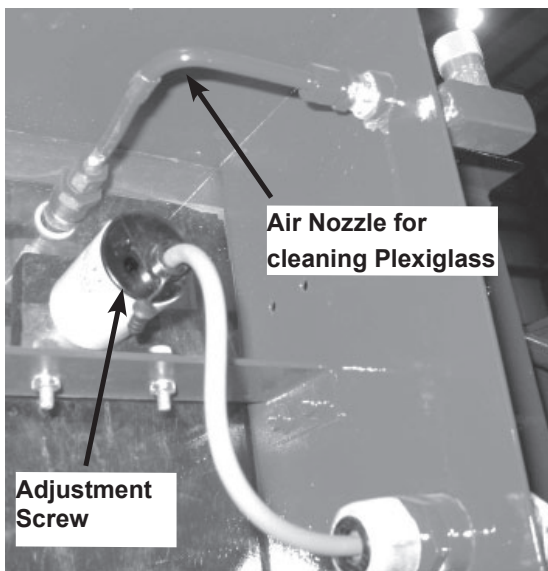

Figure 33 - Level Detector (PROX 1) / Air Nozzle
The Level Detector that is located on the side of the in-feed chute (see Figure 33) is active only when CYCLE MODE switch is in TRIG position. The level detector will detect product that sits in front of it for more than 1 second. The level detector will send a signal to the IQAN and the plunger will move according to pot #1 (PRODUCT DELAY) setting (see Potentiometer - Pg. 22).
**Adjust Level Detector Sensitivity** The cover plug at the back of the level detector covers the sensitivity adjustment (Figure 33). Remove the cover plug. The plug provides a seal against dirt and moisture.